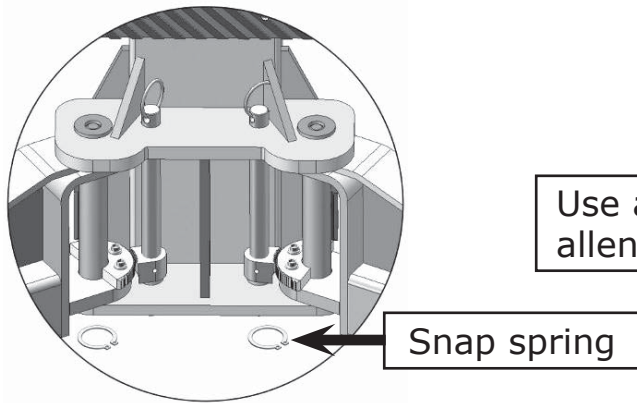

Fig. 25
1. Install the lifting arms (See Fig. 25).